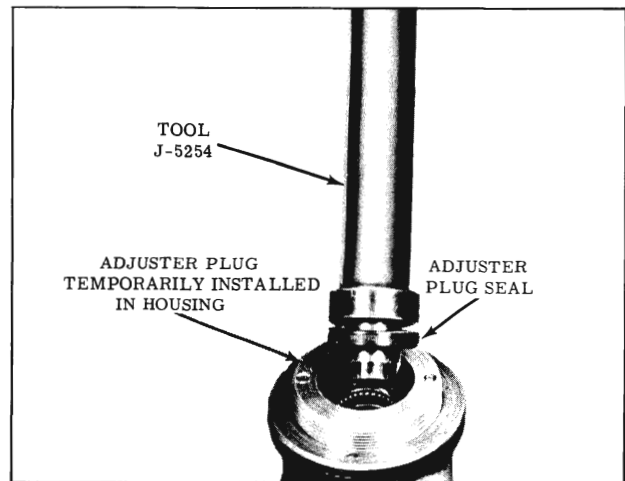

Fig. 4-260 Installing Seal
2. Temporarily install the adjuster plug in the gear housing and place dust seal and a new oil seal on Tool J-5254 (lip of seal away from tool). Lubricate seal with Hydra-Matic oil and drive or press seal into adjuster plug until seated. (Fig. 4-260) Tool J-5254 must be free of burrs that could scratch the seal.